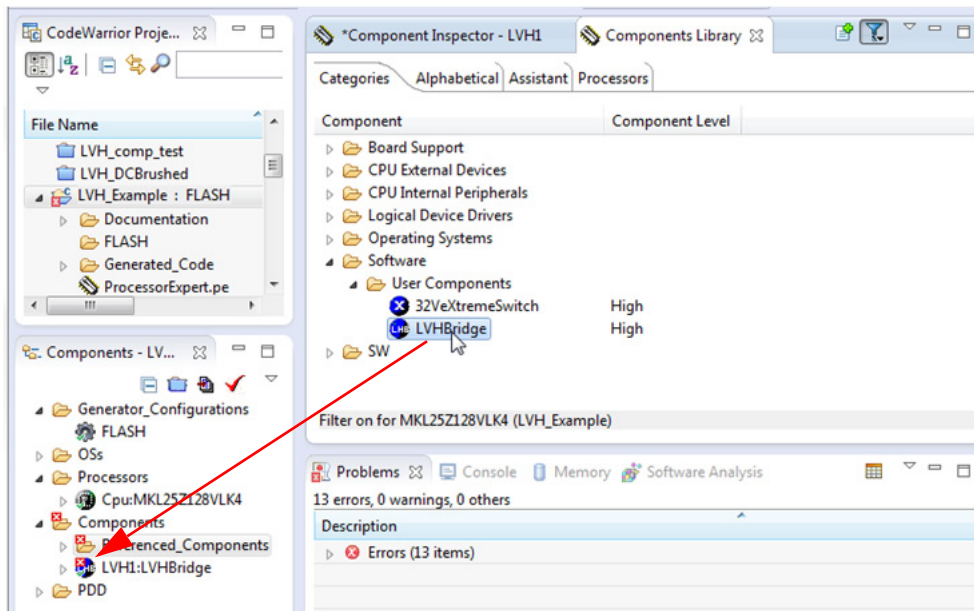

Figure 13. Add the LVHBridge Component to the Project
1. Find LVHBridge in the **Components Library** and add it into your project (see Figure 13).